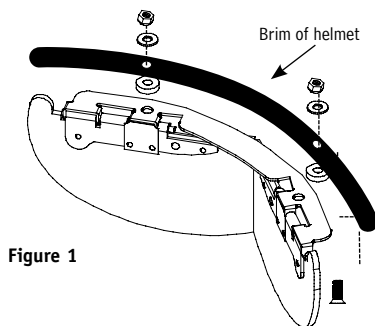

Figure 1
- Step 4: Assemble screws, washers and nuts according to Figure 1. Rubber washer is between brim and Bourke.